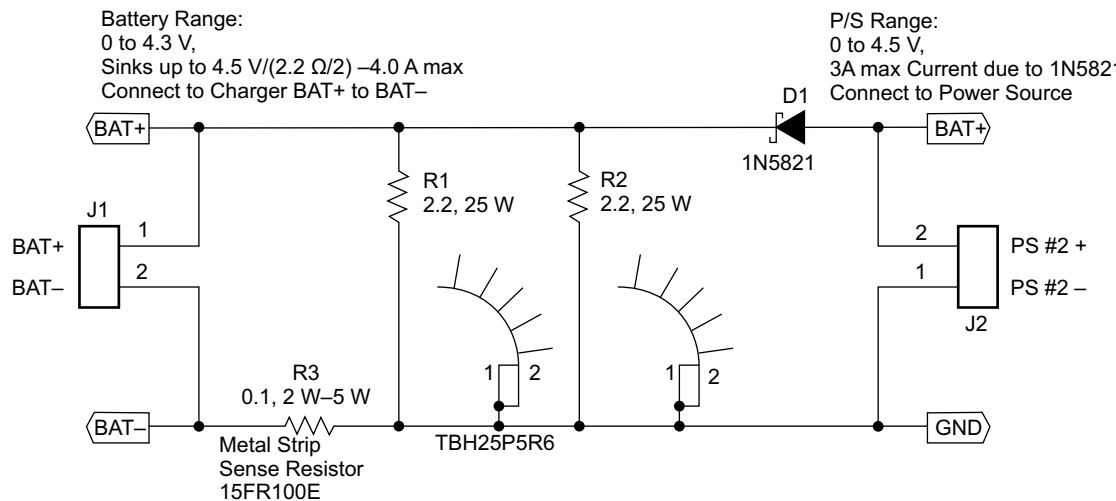

Figure 3. Battery Emulator
3. Adjust power supply #2 (PS #2) for approximately 3.6 V to the input side (PS #2±) of the battery emulator shown in Figure 3, then turn off PS #2.